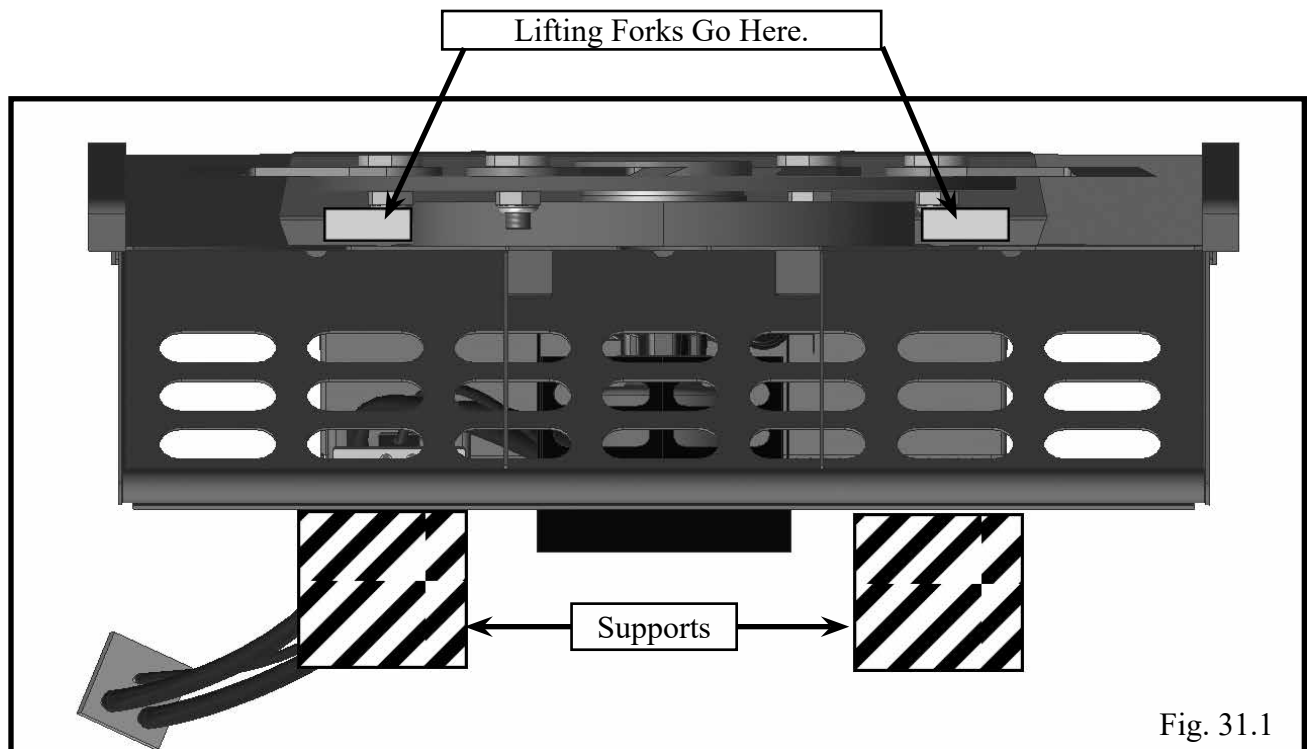

Fig. 31.1
**Step 2. With the cutter deck safely supported in an upside down horizontal position, using a forklift or forklift attachment with the forklift blades 34.5” apart, place the blades below the blade bar, as shown is Fig 31.1.**